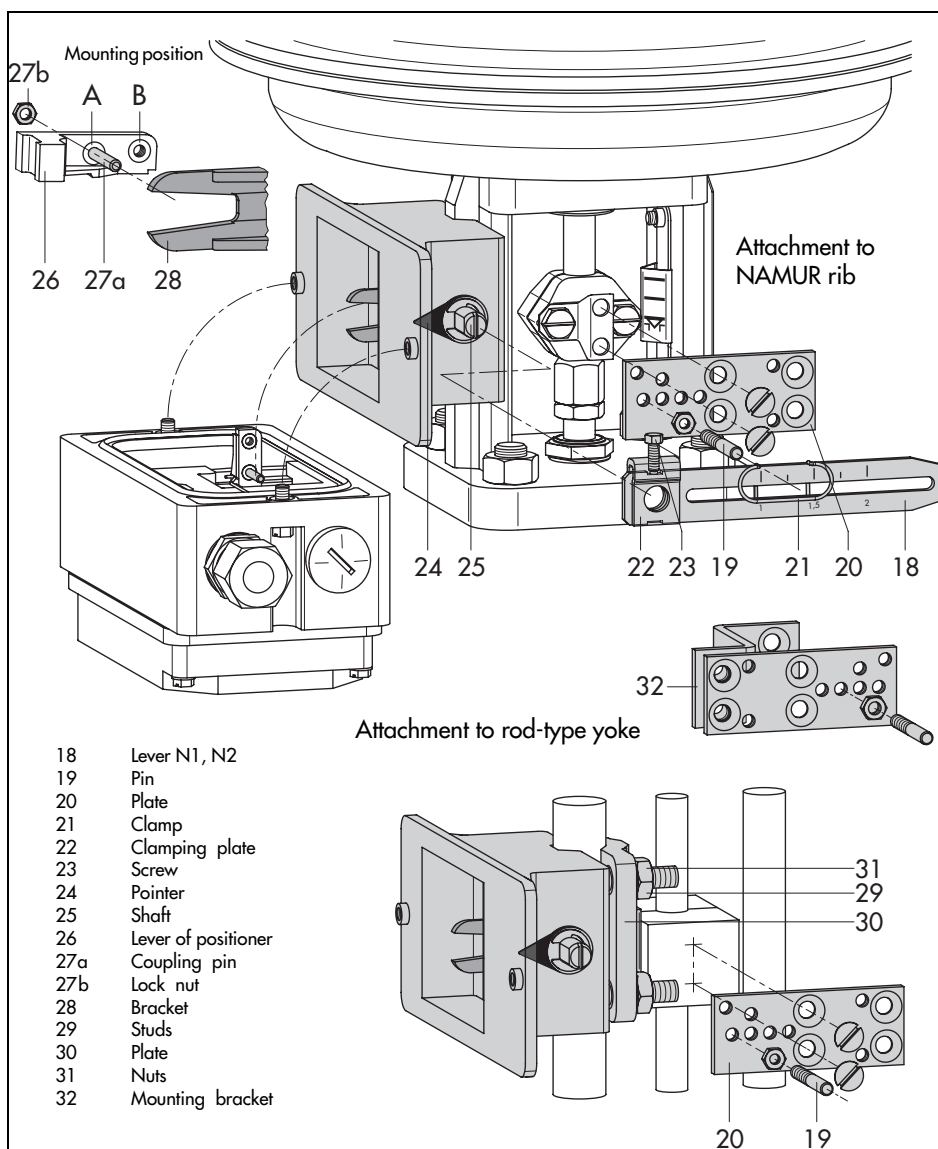

Fig. 4 · Attachment according to IEC 60534-6 (NAMUR)
The positioner is attached using an adapter housing as shown in Fig. 4. The valve travel is transmitted via the lever (18) and the shaft (25) to the bracket (28) of the adapter housing and then to the pin (27a) located at the positioner lever.